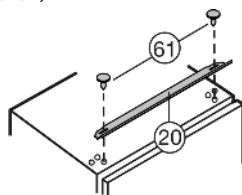

Fig. 12
- ▶ Screw *Fig. 12 (61)* the equalizer trim *Fig. 12 (20)* to the appliance through the oblong holes on top.
- ▶ Slide the equalizer trim Fig. 12 (20) toward the handle side as far as it will go.